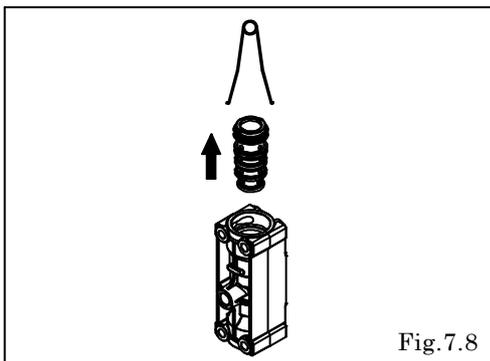

Fig.7.8
- Remove the sleeve using the sleeve remover (special tool: Part number 713148). [Fig.7.8]